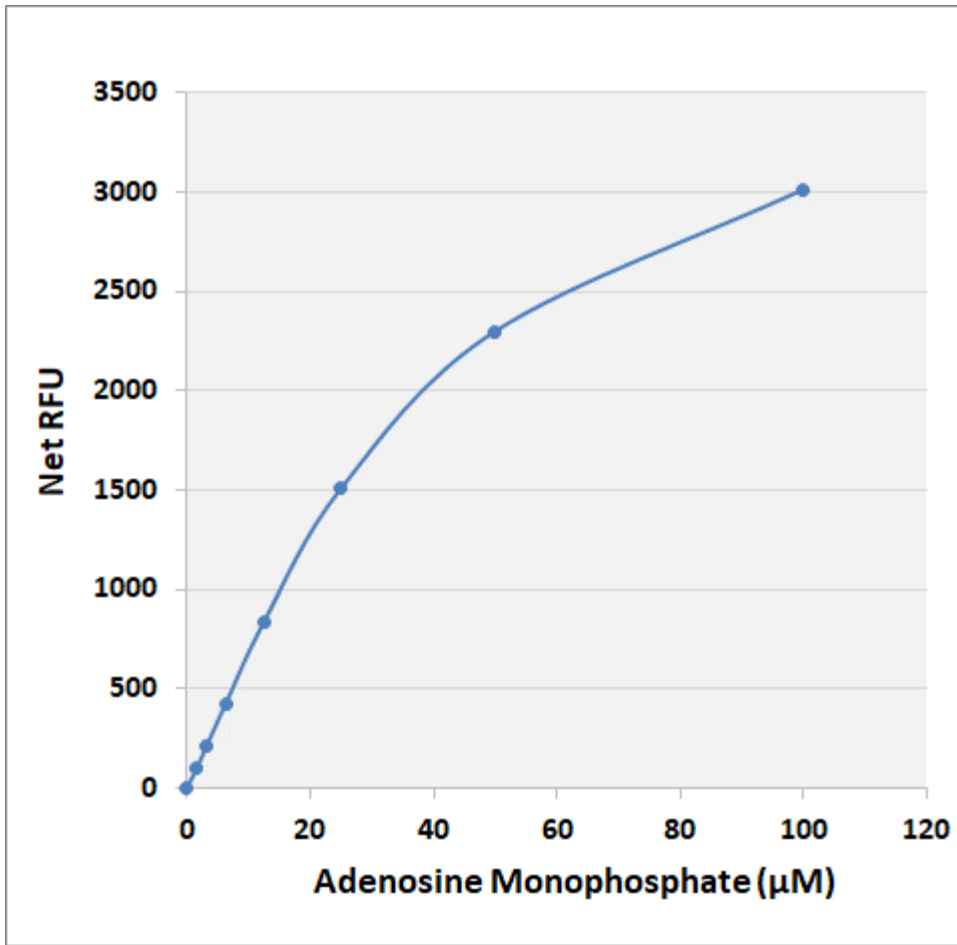

Figure 2: Adenosine monophosphate Standard Curve.
3. Graph the standard curve (see Figure 2).